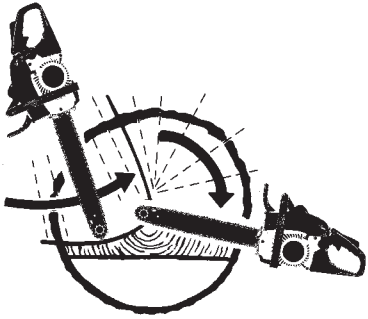

Fig. 17
2. When diameter of wood being cut is greater than the bar length, make 2 cuts as shown (Fig. 17).